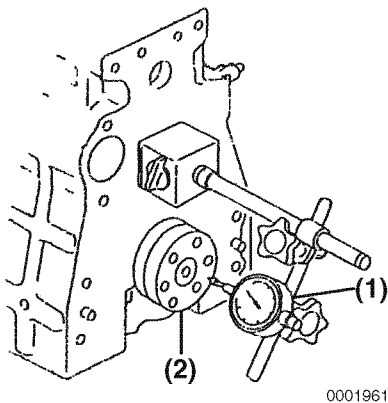

Figure 6-53
- **Method A:** Install a dial gauge (Figure 6-53, (1)) on the cylinder block. Move the crankshaft (Figure 6-53, (2)) in and out to measure the end play. Record the measurement.